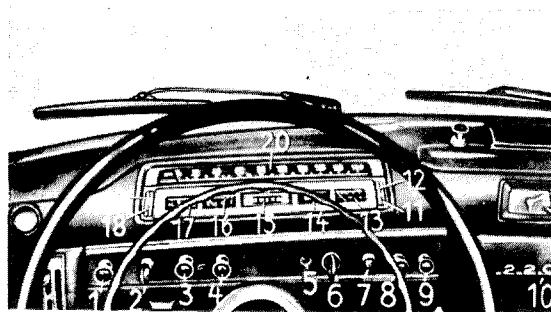

Fig. 46-8/1
6. Unscrew the pull switch for the roof light (1), the rotary light switch (2) and pull switch for the instrument lighting (3) and pull them out of the mounting plate without disconnecting the cables (see Fig. 46-8/1).
7. Unscrew the choke control knob (8) with escutcheon (Fig. 46-8/1).
Note: a) On Model 220 SE there is no choke control knob (8). The arrangement of the other control knobs on the mounting plate is as shown in Fig. 46-8/1.
b) On Model 220 a and the 1st version of Model 220 S the ignition control knob (10) (octane number compensator) is to the right of the choke control knob. The pull switch for the demisting blower is arranged to the left of the charging light (Fig. 46-8/2).